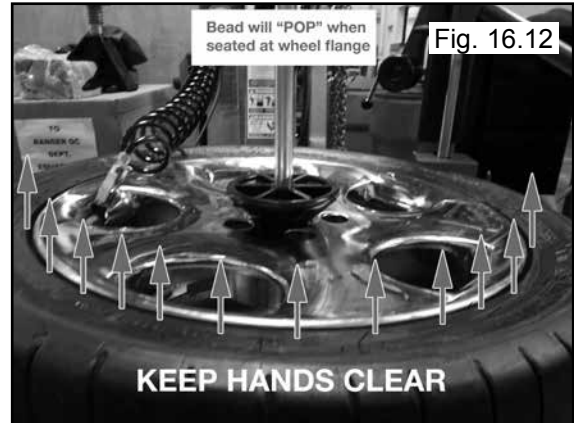

Fig. 16.12
1. Once tire pressure is indicated on the air gauge (inflation pedal depressed, continue to inject air into the tire in short intervals. Check the pressure frequently. Stand back during bead seat. Keep hands, arms, and entire body away from tire during this procedure. Tire beads should move outward and “pop” into their bead seat position as pressure inside the tire increases. If this does not happen, a problem exists. Investigate carefully. (See Fig. 16.12)